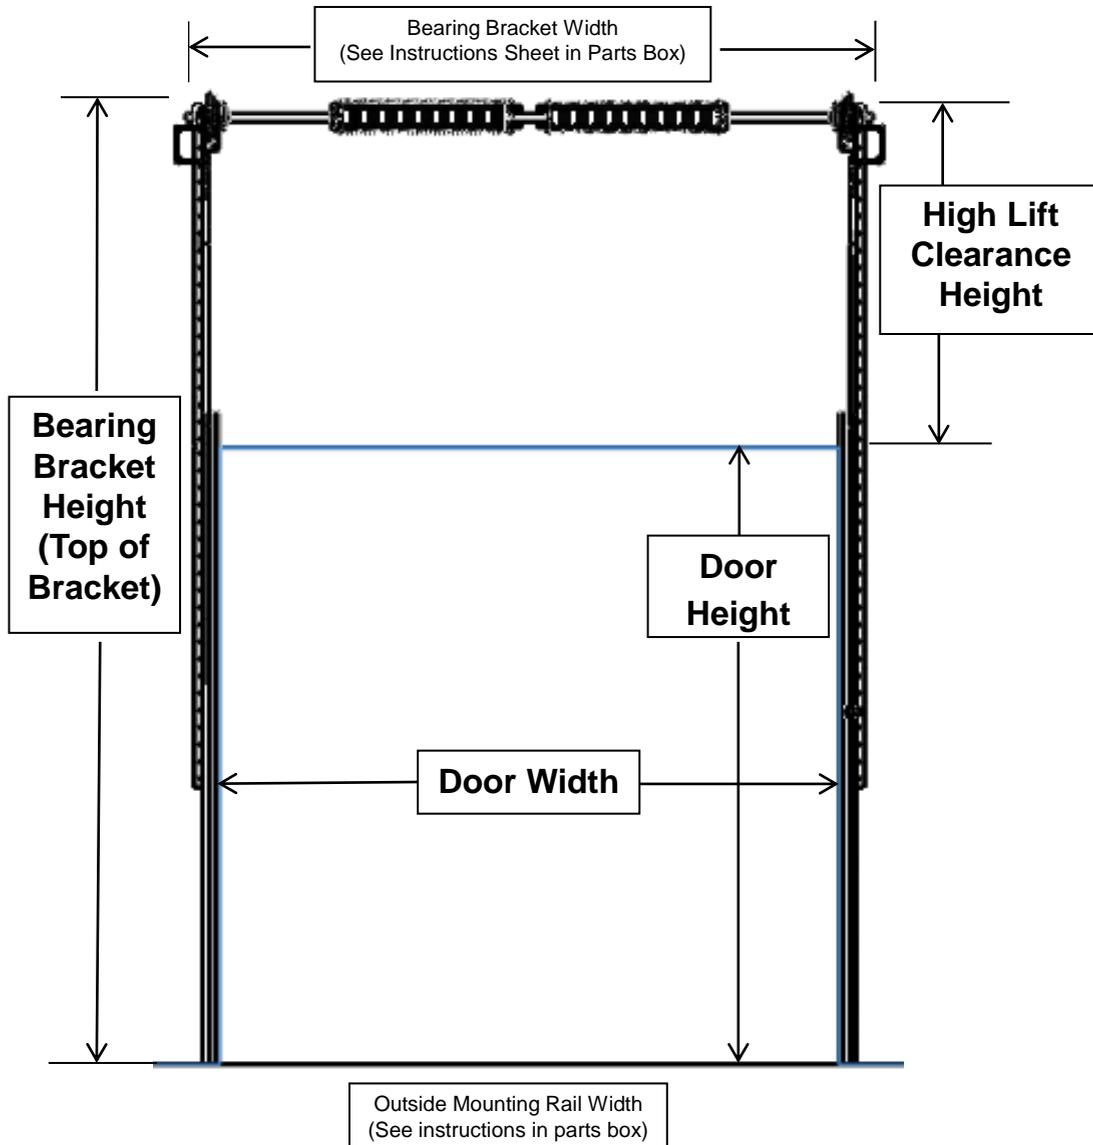

Figure 1 Key measurements and locations of mounting rails and end bearing assemblies.
3. Verify the minimum clearance to the sides and above the door. (**SEE FIGURE 1**).
- Verify the minimum clearance to the sides and above the door. (**SEE FIGURE 1**).
5. Measure the height of the bearing bracket placement as shown on the dimension drawing (**SEE FIGURE 1-Page 7**). Attach upper mounting rail to lower mounting rail using 3/8"-16x1" bolts and 3/8"-16 Nylock nuts (**SEE FIGURE 8**). Re-measure bracket height to confirm the brackets are at the correct height.
6. Verify the height of the bearing bracket placement as shown on the dimension drawing (**SEE FIGURE 1**). Attach upper Mounting Rail to the wall using one of the methods described on Page 4.